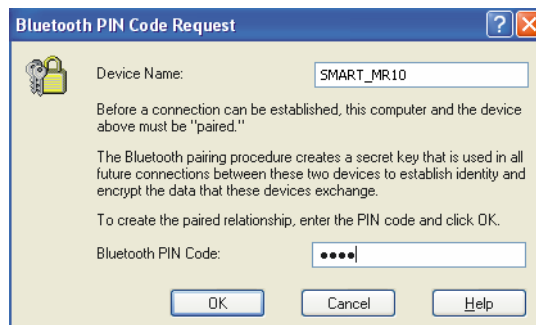

Figure 23: *Bluetooth* PIN Code Request
3. Enter the SMART-MR10 default pin number of four zeroes (0000), as shown in *Figure 23*: